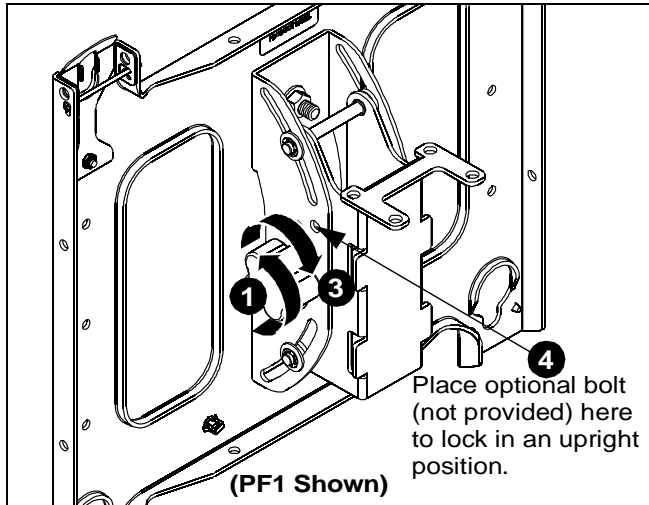

Figure 12
1. Turn knob counterclockwise on back of head assembly to loosen the tilt. (See Figure 12)
3. Turn knob clockwise to tighten display on head assembly. (See Figure 12)
4. If leaving the display in a straight upright position, it is recommended that a bolt (not provided) be placed through the head assembly (see Figure 12) to lock the display into the upright position.